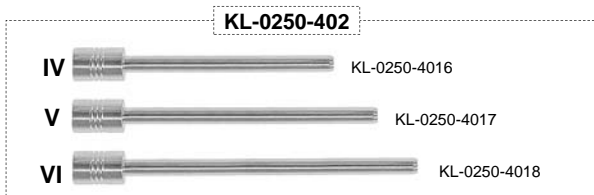

Fig. 2: Tool-body mounted.
2. Remove the hex. nut from the retaining bolt. (Fig.2 arrow)
3. Mount the tool-body Pos.1 without the adaptor Pos.2 or the pressure bolt Pos.3 carefully onto the wishbone as shown in Fig.2. Take care to avoid damage to the rubber gaiters. When the tool-body is correctly mounted the retaining bolt will be centralised in the threaded bore of the tool-body. (Fig.2 arrow)